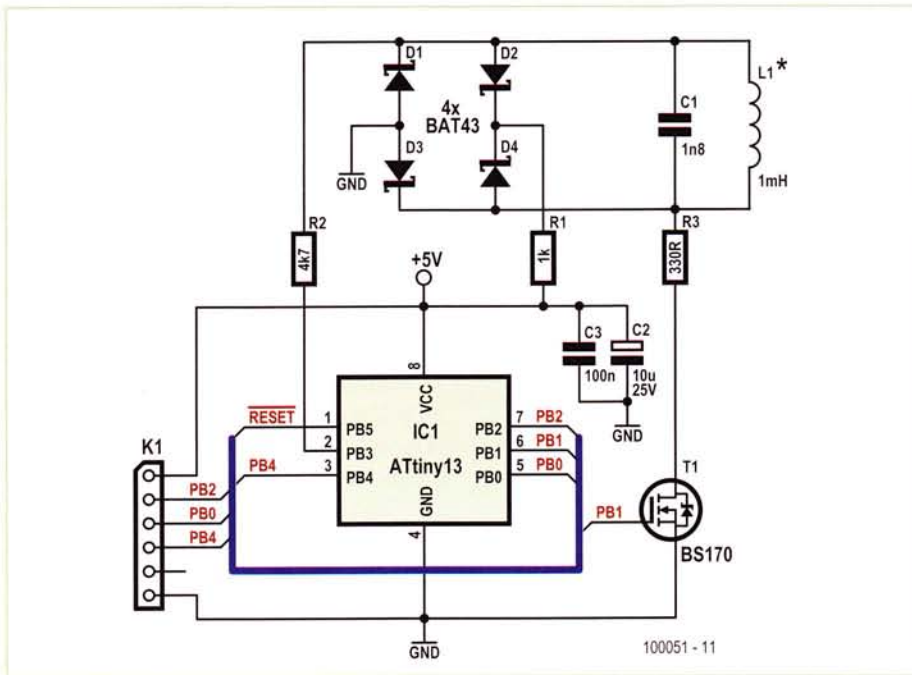

Figure 3. Circuit of the DIY RFID tag using an ATtiny13.
**Figure 3** shows the complete circuit diagram of our DIY RFID tag. The microcontroller is provided with a clock from the resonant circuit formed by L1 and C1. Simultaneously, the diode bridge rectifies the 125 kHz AC signal and supplies the CPU with power. T1 allows the resonant circuit to be loaded, and it is through modulating this load that the microcontroller can transmit data. However, the signal level must not be reduced excessively, or else the clock to the CPU will be lost.